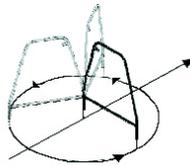

Figure 2
- To verify the fault location, insert the frame's red-and-white-striped probe directly on the spot identified above. Pivot the frame in a circle around the red-and-white-striped leg re-inserting the green-banded leg in the ground every few degrees of the circle (Figure 2). The arrow should always point toward the left (red) indicating that the fault is directly below the red-and-white-striped leg.